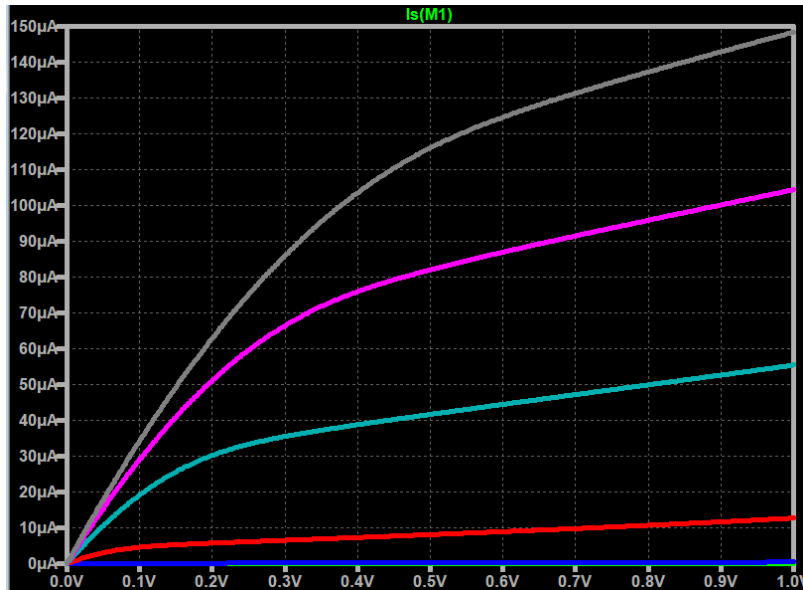

Figure 2.9 Parametric DC Sweep for Short-channel PMOS Transistor
3. **Do a parametric DC sweep, with the same V_{SD} setting but with V_{SG} from 0V to 1V in 0.2V increments.** You should get Figure 2.9.